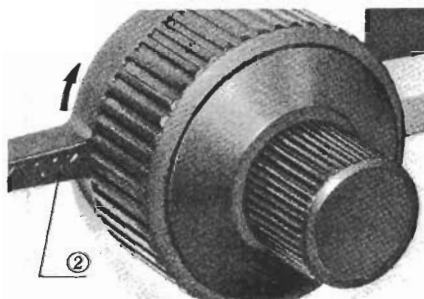

Fig. 16
This lever ② is provided to prevent possible contact between specimen and objective as well as to simplify coarse focusing. (Fig. 16)